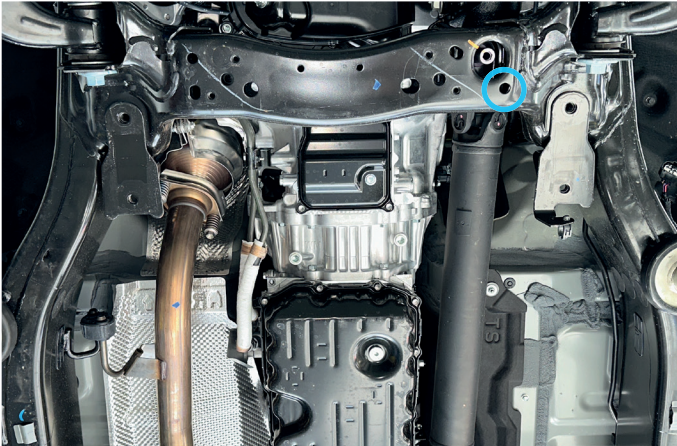

Fig. 7
7. Install M8x50 insert nut (item E) as shown in fig.7.